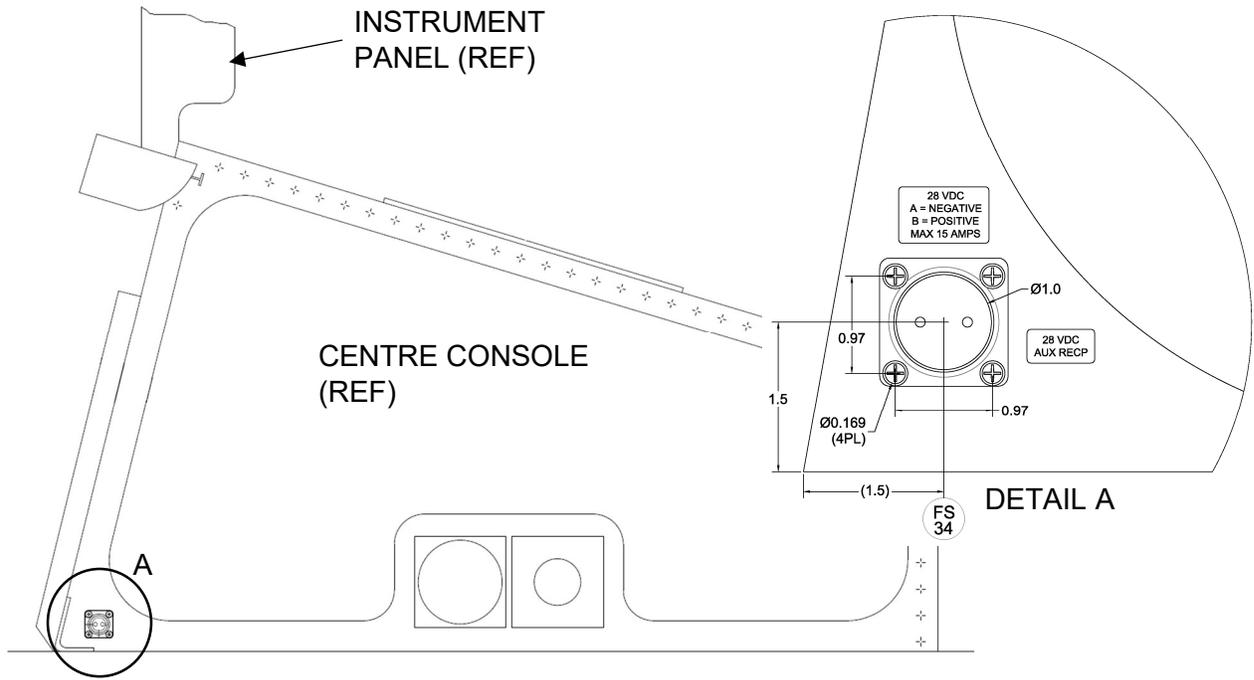

Figure 1 Utility Power Plug Installation
3. Cut out a hole $\varnothing 1.0$ inch diameter, position as shown in Figure 1. Drill four (4) 0.169" holes to match Cannon Plug (Item 1) pattern.
8. Apply decal "28 VDC AUX RECPT" (PTouch or equivalent), as shown in Figure 1.
9. Apply decal "28 VDC A = NEGATIVE B = POSITIVE MAX 15 AMPS" (PTouch or equivalent), as shown in Figure 1.